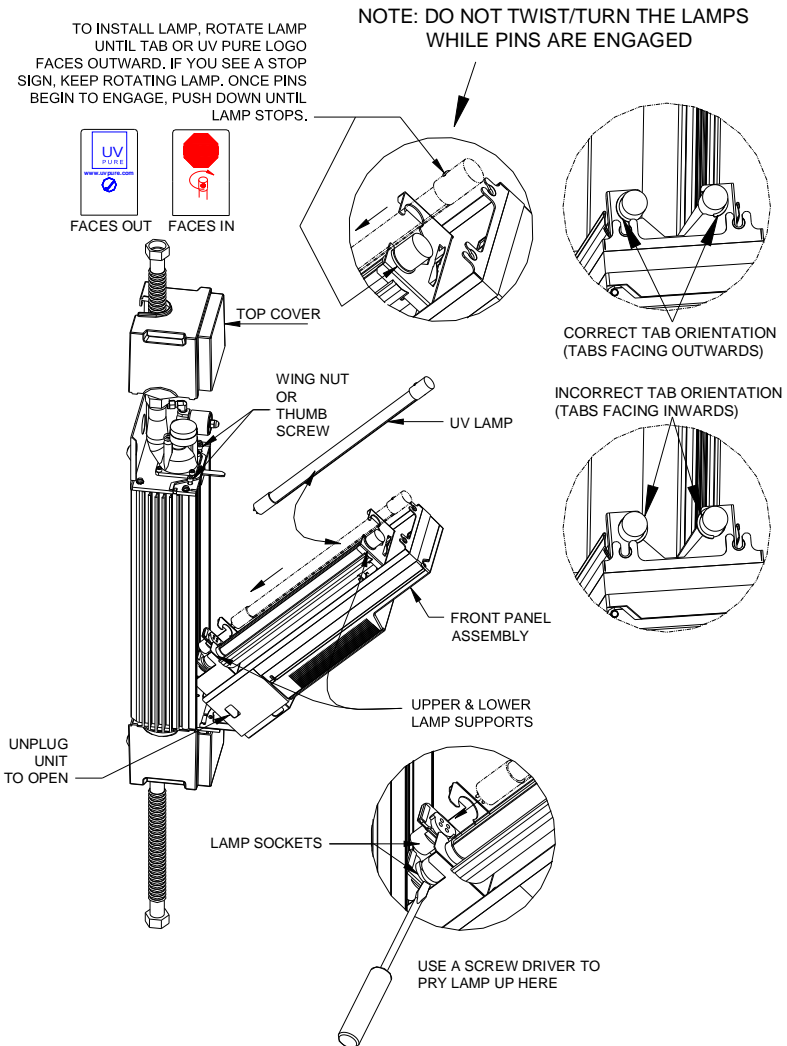

Figure 3
The lamps can be replaced in a few minutes. Draining the unit is not required. See Figure 3.
Step 3: Caution: The lamps heat up after continuous use and can burn your skin if touched. Allow lamps to cool for five minutes before removing them. Slowly lift the old lamps out of the unit. For assistance in this task, use a flat screwdriver and pry the lamps up between lamp base and socket (see Figure 3). Dispose of the old lamps in the same way as you would dispose of ordinary fluorescent tubes. Note that old lamps should be disposed of at a household waste management depot or transfer station; contact your local recycling and waste management authority for proper disposal procedures in your area.
Step 4 Install the new lamps into the unit, being careful not to touch the bulb. **Ensure that the lamps are aligned with the tab facing the outside of the system (left or right side of the system), or, if the lamps have a stop sign printed on the top ceramic, that the stop sign is facing inward. If you can see the stop sign, the lamps are backward (See Figure 3).**